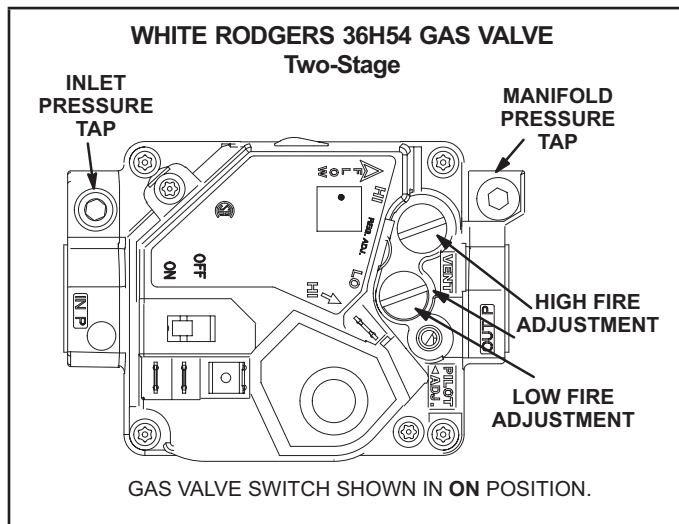
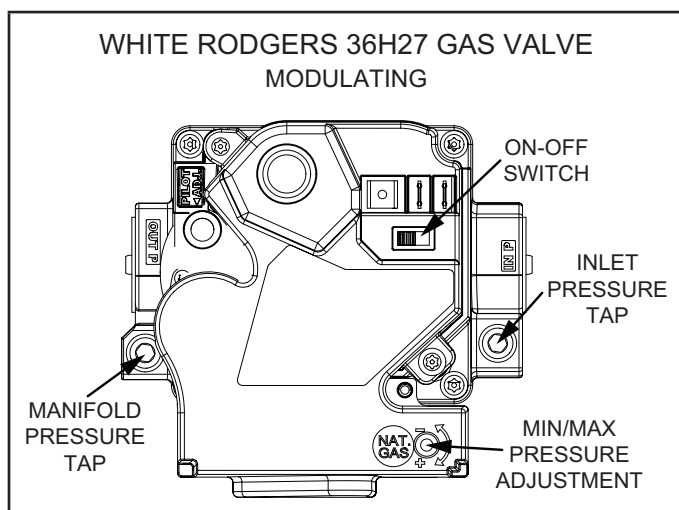

FIGURE 34
FIGURE 35
- 5 - Turn gas valve switch to **OFF**. See FIGURE 34 and FIGURE 35.
- 6 - Wait five (5) minutes to clear out any gas. If you then smell gas, **STOP!** Immediately call your gas supplier from a neighbor's phone. Follow the gas supplier's instructions. If you do not smell gas, go to the next step.
- 7 - Turn gas valve switch to **ON**. See FIGURE 34 and FIGURE 35.
After line pressure has been checked and adjusted, check manifold pressure. Move test gauge to the outlet pressure tap located on unit gas valve GV1 and or GV3. See FIGURE 34 and FIGURE 35 for locations of pressure tap on the gas valve.
The manifold pressure is factory set and should not require adjustment. If manifold pressure is incorrect and no other source of improper manifold pressure can be found, the valve must be replaced. See FIGURE 34 and FIGURE 35 for locations of gas valve (manifold pressure) adjustment screw.